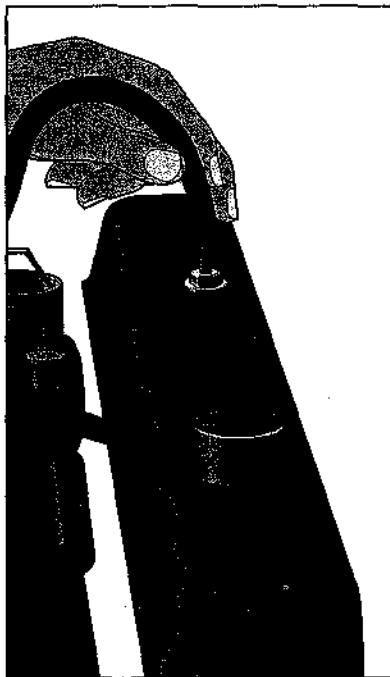

Figure 13-7:
- **If your engine is carbureted,** look for a $\frac{1}{4}$ -inch diameter hose that leads from the bottom area of the carburetor to the top of the valve cover or to the oil filler hole (see Figure 13-7). If your engine has *both*, you want the hose that does *not* lead to the oil filler hole.